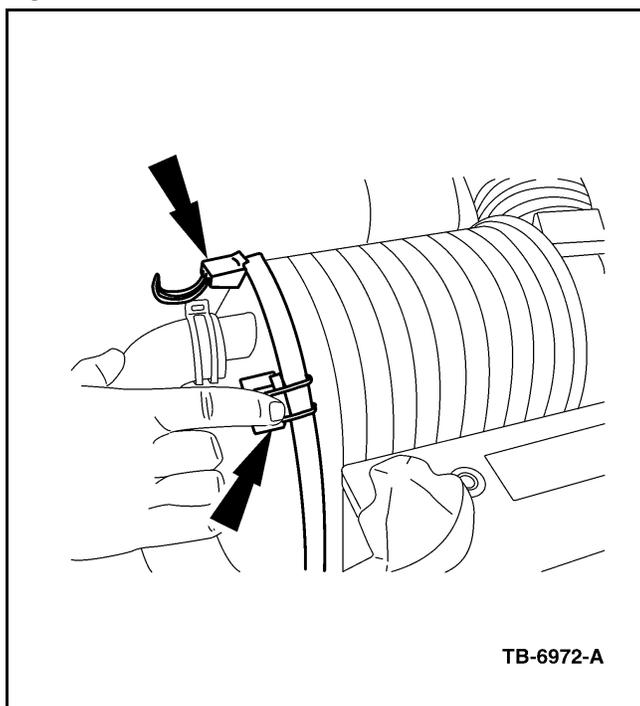

Figure 8 - Article 03-1-9
2. Attach inlet cover to filter using the 2 clamps on inlet side, making sure that tabs are seated inside the windows (Figure 8).